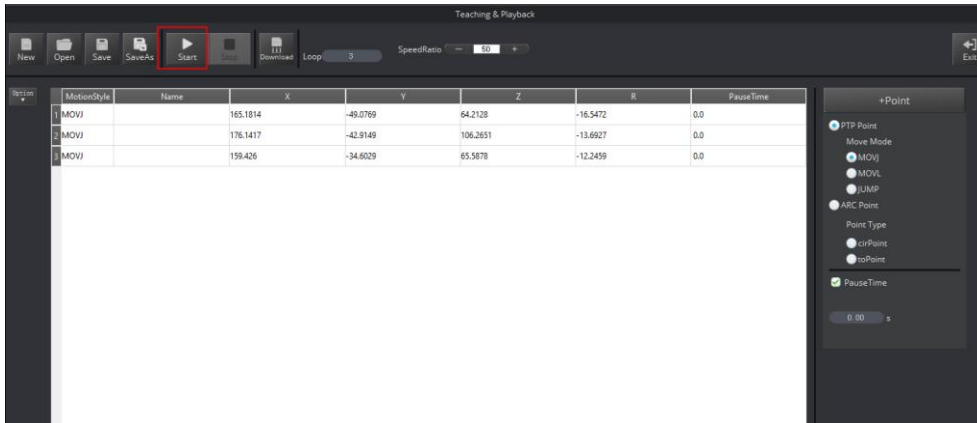

Figure 2.23 Click Start
6. Click **Start** to perform the motions taught above, as shown in Figure 2.23.